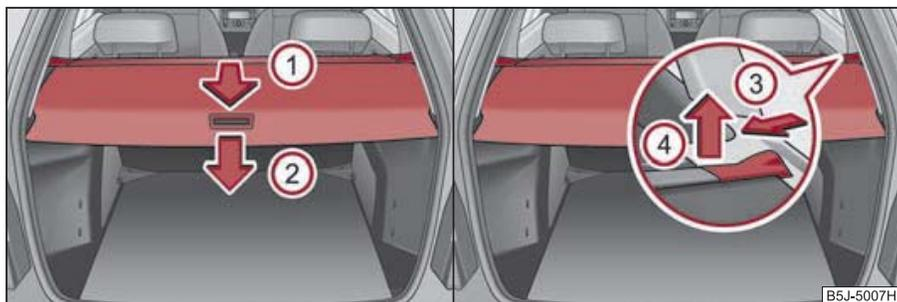

Fig. 62 Luggage compartment: foldable luggage compartment cover/removing foldable luggage compartment cover
- Pull the foldable luggage compartment cover in direction of arrow ① as far as the stop into the secured position ⇒ fig. 62.
- Have the foldable luggage compartment cover removed to transport bulky goods by pressing on the side of the cross rod in direction of arrow ③ and taking it out by moving it in direction of arrow ④ ⇒ fig. 62.